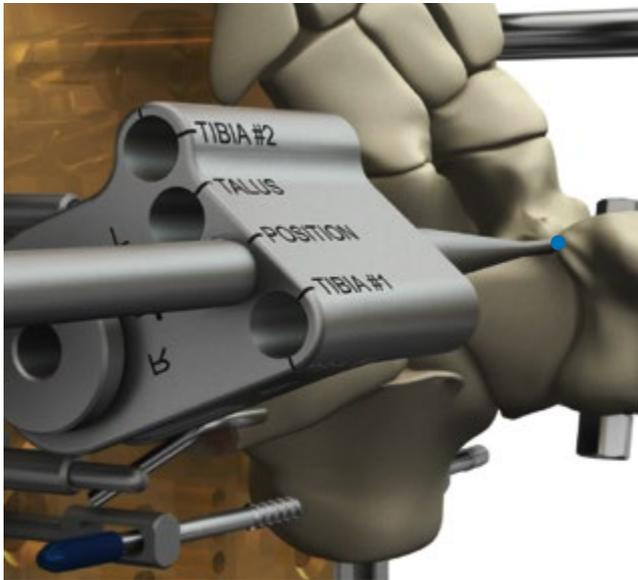

Fig. 38a
- Sweep the probe back and forth to assess the reconstructed joint line (Fig. 38a, 38b & 38c).